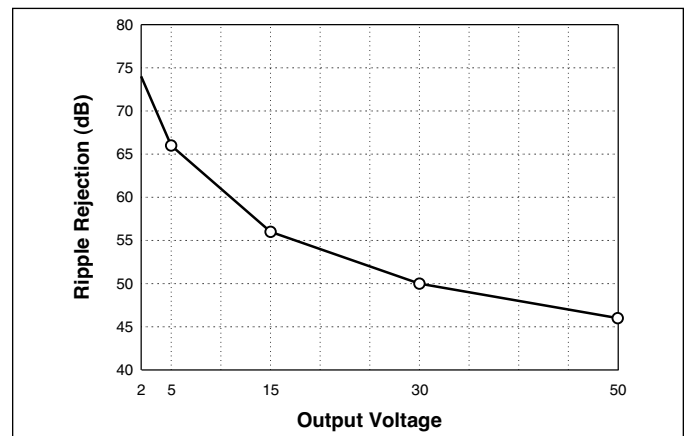

Figure 9-17 — Converter ripple rejection vs. output voltage (Typical)
**Determining the Ripple on the Output of the DC-DC Converter.** Figure 9-17 is used to determine the ripple rejection of the DC-DC converter and indicates a ripple rejection of approximately 60 dB for a 12 V output. Since the ripple on the bus voltage is 12 Vac and the ripple rejection of the converter is 60 dB, the output ripple of the converter due to ripple on its input (primarily 120 Hz) will be 12 mVp-p.